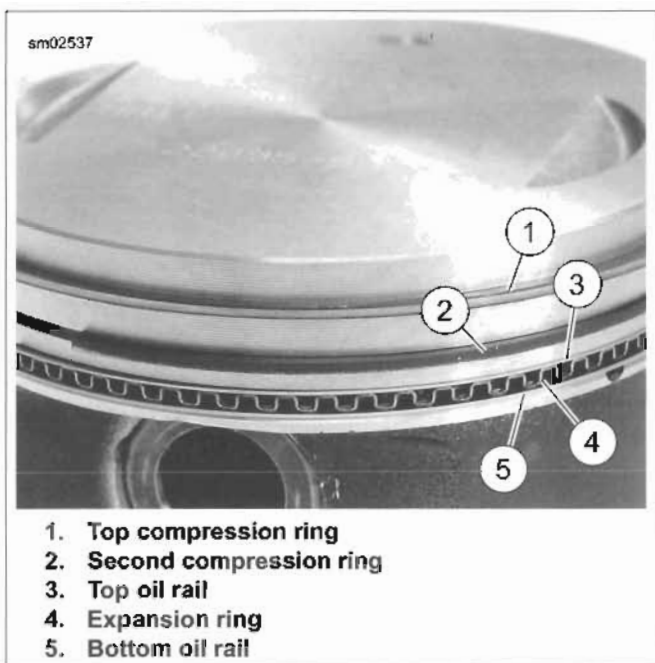

Figure 3-66. Piston Rings
- See Figure 3-66. Apply clean engine oil to three piston ring grooves.
- Install expansion ring (4) into third ring groove.
- Spiral bottom oil rail (5) into space below expansion ring (4). Position gap 90 degrees from the gap in the expansion ring.
- Spiral top oil rail (3) into space above expansion ring (4). Position gap 180 degrees from the gap in the bottom oil rail.